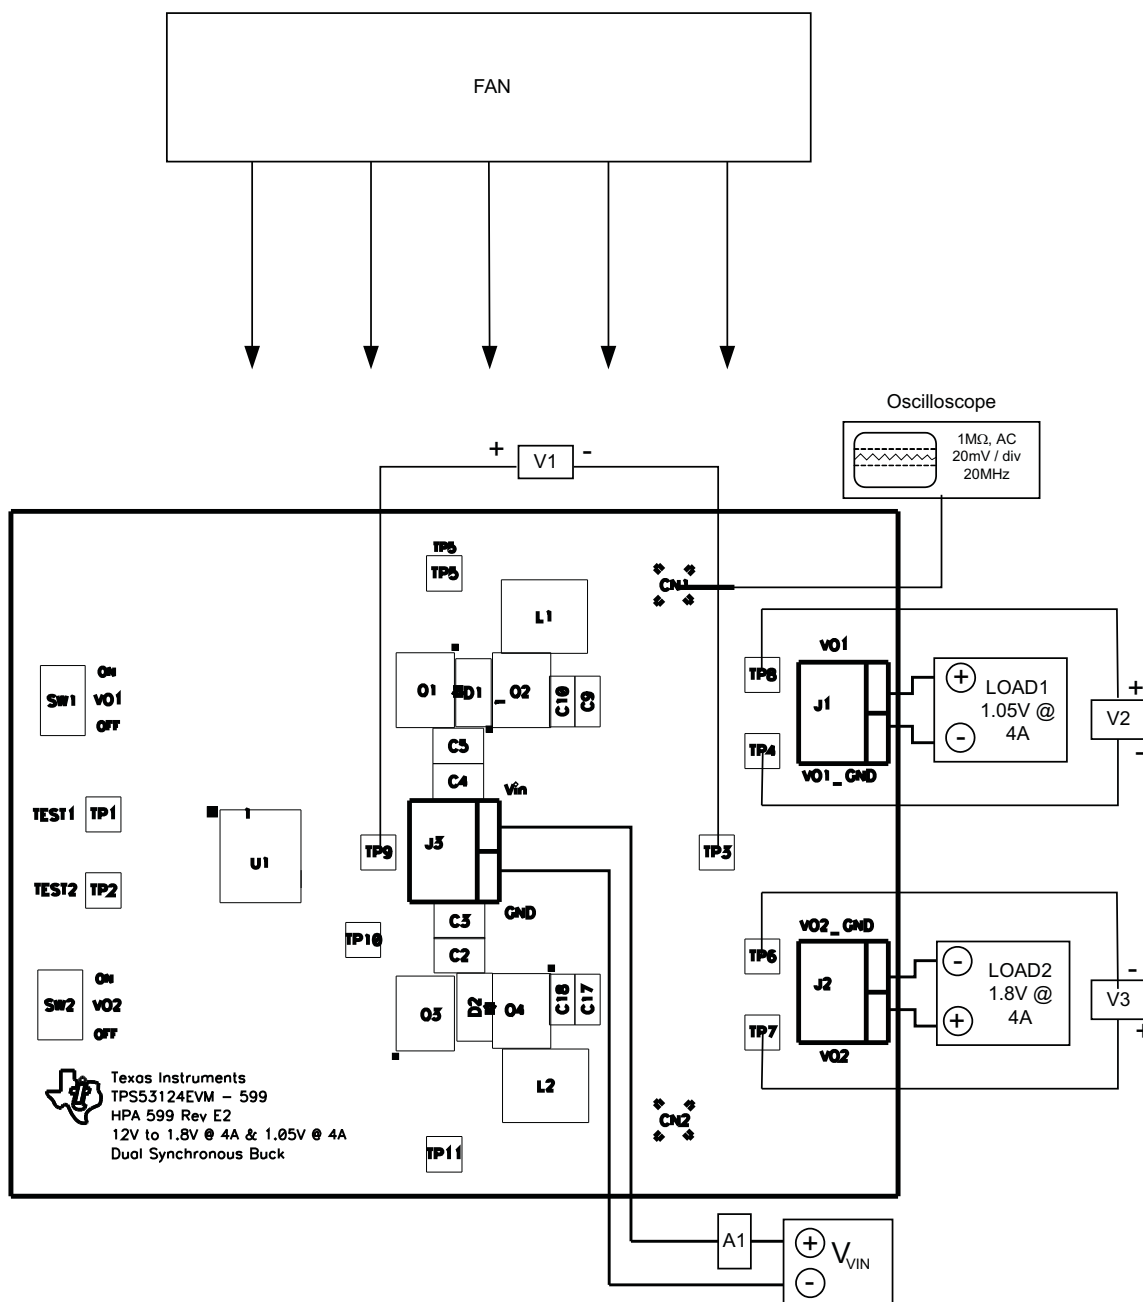

Figure 2. TPS53125EVM-599 Recommended Test Setup
Figure 2 shows the basic test setup that is recommended to evaluate the TPS53125EVM-599. Note that although the return for J3 and J1 and JP2 are the same system ground, the connections must remain separate as shown in Figure 2.
2. Prior to connecting the dc input source, V_{IN} , it is advisable to limit the source current from V_{IN} to 3 Adc maximum. Ensure that V_{IN} is initially set to 0 V and connected as shown in Figure 2.
5. Connect oscilloscope probe to CN1 or CN2 shown in Figure 2.